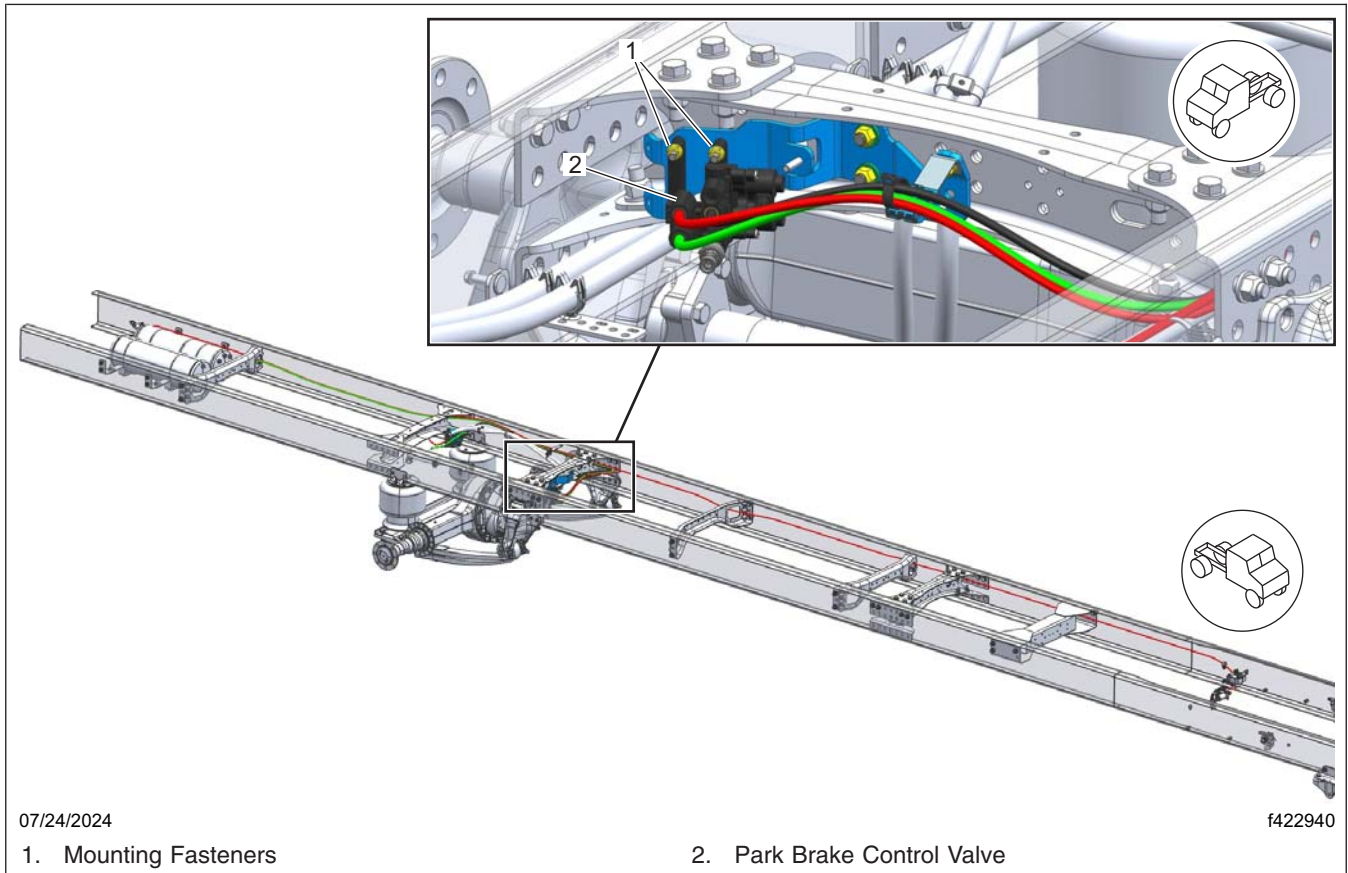

Fig. 1, Location of the Park Brake Control Valve
4. Locate the park brake control valve mounted above the rear axle of the vehicle. See Fig. 1.
7. Remove the two fasteners that hold the control valve to the bracket. See Fig. 1.